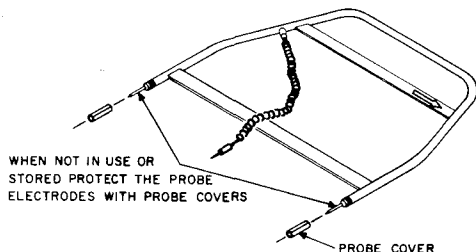

Fig. 7—AT-8681 B Ground Probe
3.07 Figure 7 illustrates the AT-8681 B ground probe. The ground probe, or an equivalent, must be used in the PINPOINT mode of operation. Section 634-220-505 covers the description and use of the B ground probe.